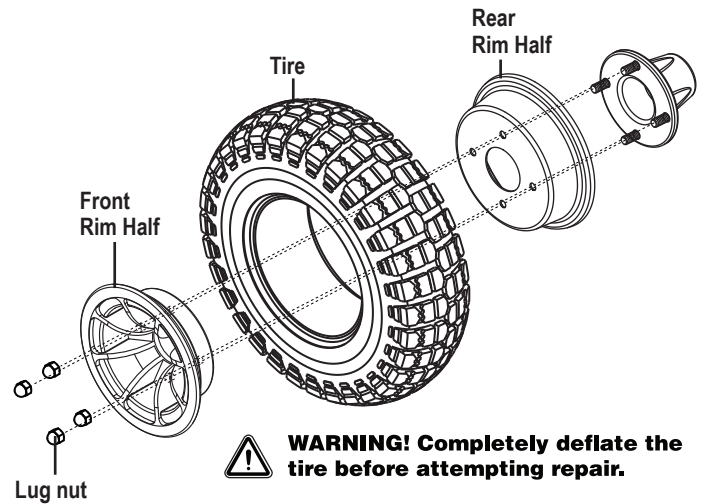

Figure 18. Drive Wheel Disassembled
6. Remove the screws and separate the front and rear rim. **See figure 18.**
10. Reinstall the four (4) lug nuts onto the wheel hub and tighten.